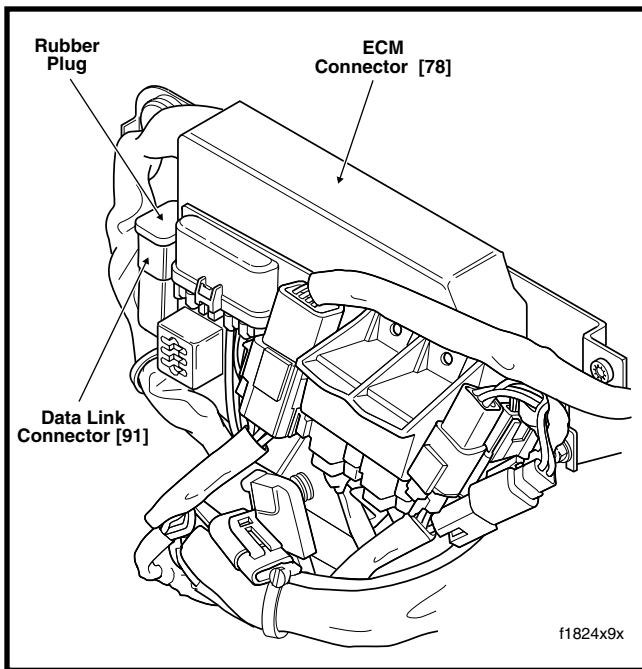

Figure 3. Locate Data Link Connector Under Right Side Cover - Touring
3. Locate Data Link connector (pin side of 4-place Deutsch) on the electrical bracket. See Figure 3. Push connector up to disengage small end of slot on attachment clip from T-stud.